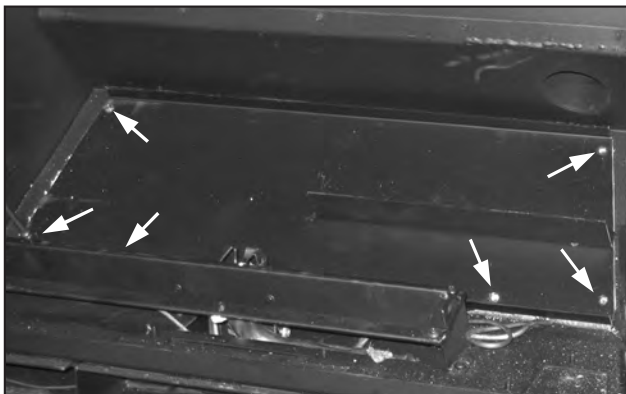
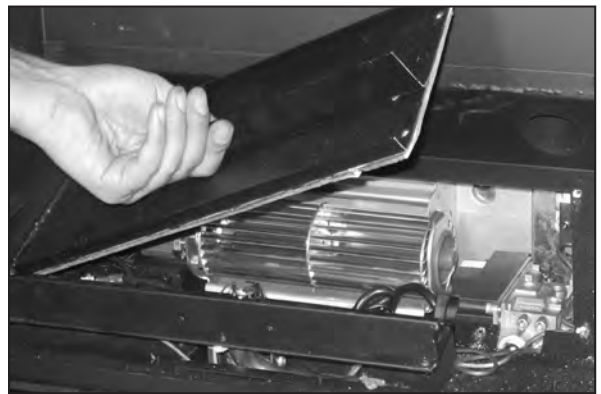

Figure 12: Screws Holding Valve Cover in Place.
Figure 13: Removing Valve Cover.
4. Using a T-20 screwdriver remove the six (6) screws that hold the valve cover in place (pointed out in Figure 12). Pick the valve cover up then out of the firebox (see Figure 13).